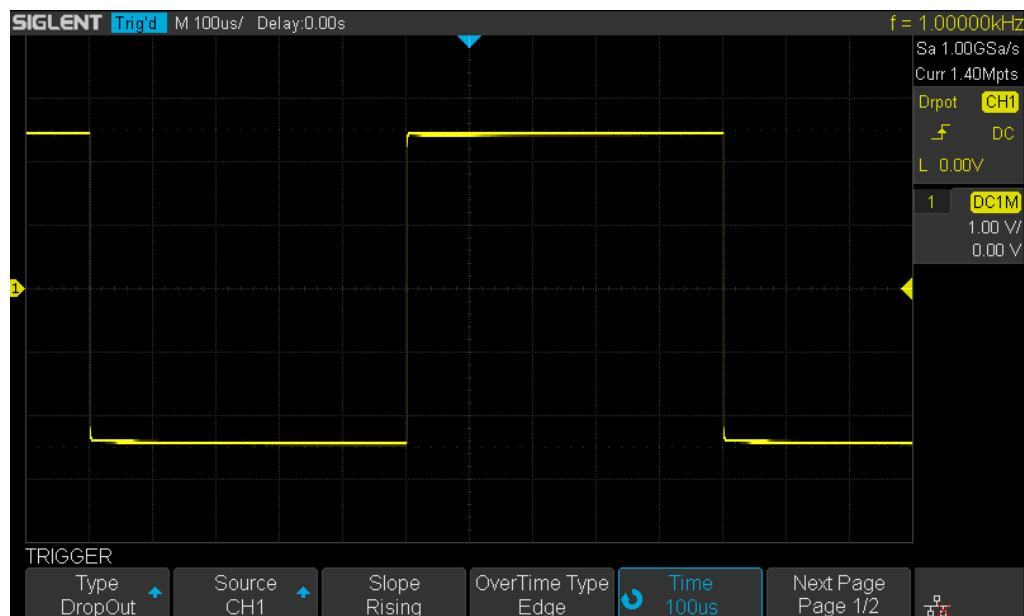

Figure 35 Edge Dropout Trigger
4. Press the **Signal** softkey to enter the **SIGNAL** menu as Figure 35 shows.